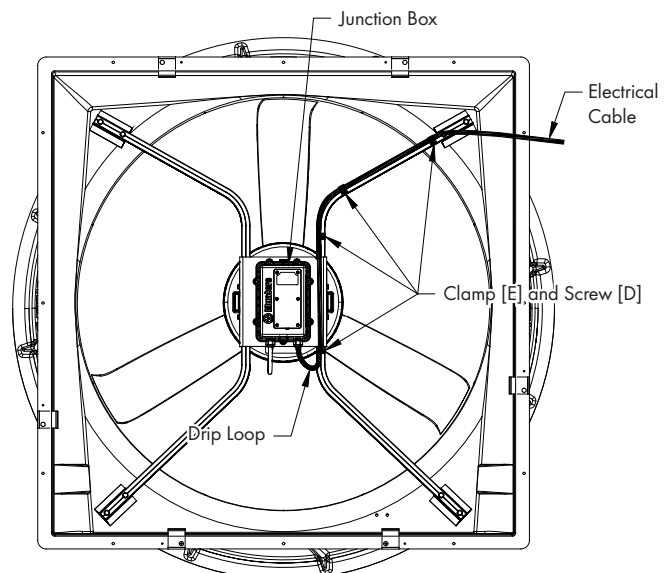

Figure 9
The Munters Drive MD Kit comes with a coil of electrical cable that is pre-wired to controller. Determine where the existing power for fan enters housing and route the cable up or down the left or right strut toward the existing power. Create a drip loop in bottom of cable and then fasten it to the strut using (4) Wire Clamps [E] and TEK Screws [D]. Attach new cable to existing power supply for fan. See Figure 9.